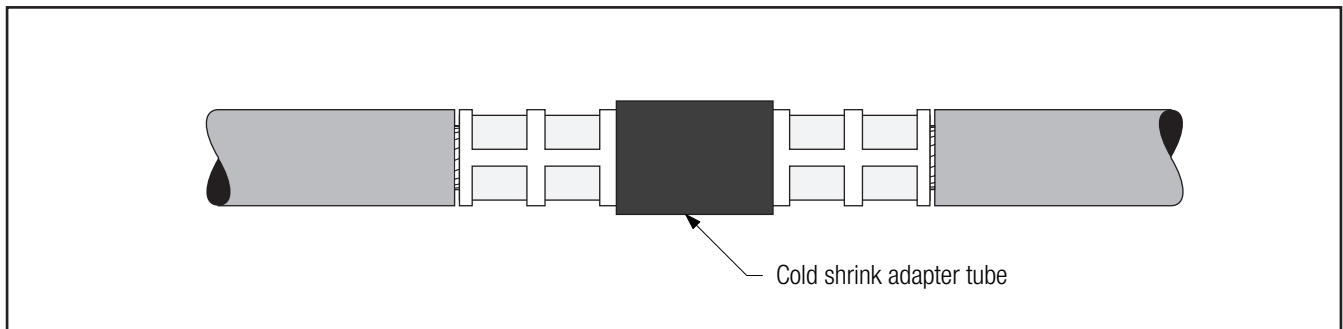

Figure 14
- 4.2 **If using cold shrink adapter tube:** Position adapter tube over the connector. Shrink adapter near the center of connector by pulling and unwinding the loose core end in a counter-clockwise direction (Figure 14).